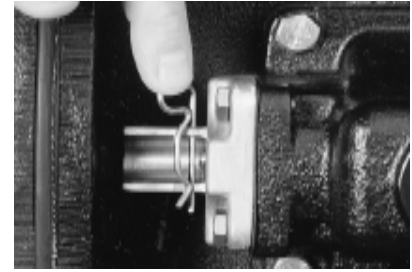

Fig. 1 Safety clip.
3. With 5-10 PSI of air pressure at inlet, lock the spool to one side with locking pin (safety clip; item 61) (Fig. 1). You will fill the opposite side diaphragm from the "Locked Area."